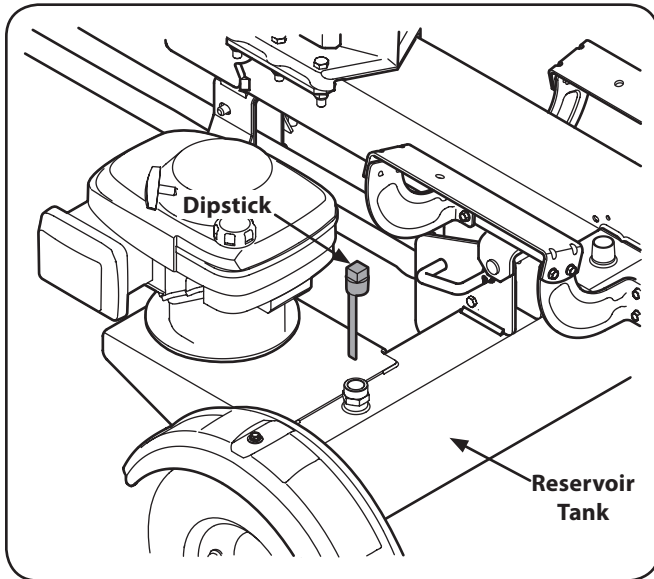

Figure 3-9
2. Remove the vented reservoir dipstick, which is located in front of the engine on top of the reservoir tank. See Figure 3-9.
3. Check the fluid level using the dipstick. See Figure 3-9. Do not overfill.